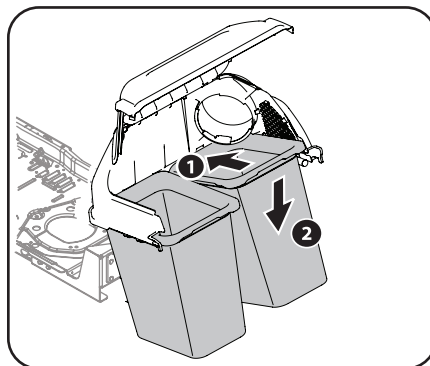

Figure 4-11
7. Install both grass bag assemblies (664-05104) onto the bag support brackets by inserting the front edge in first, as shown in Figure 4-11, and setting the back edge down until it fits into the assembly.